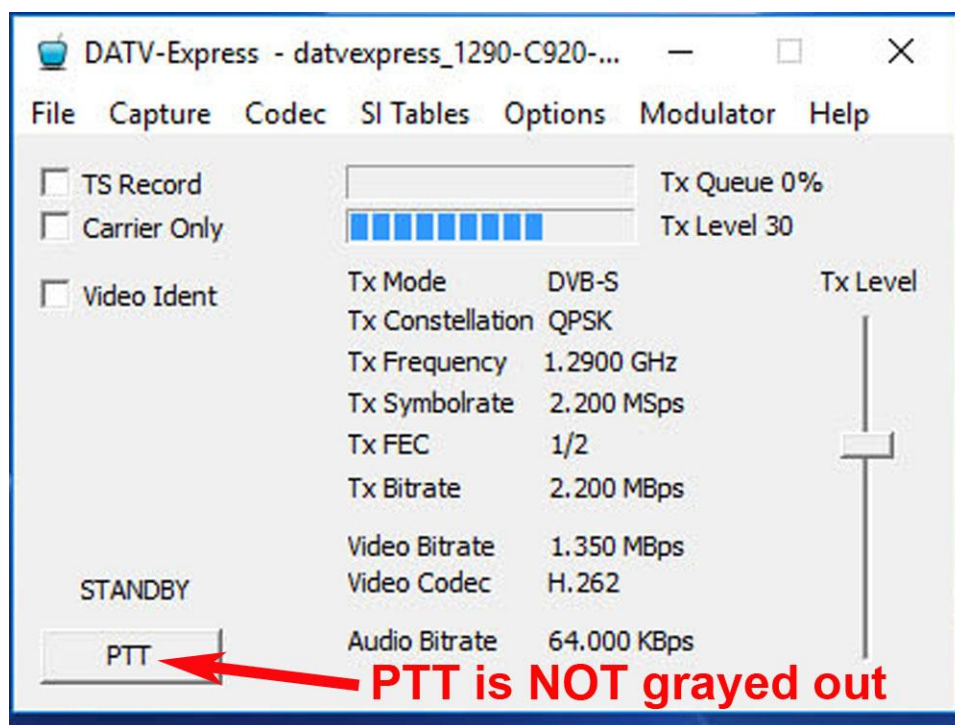

Figure 23 – The "NORMAL" MAIN screen confirms that Software is no longer running in DEMO Mode
- Select the CAPTURE Tab on the Main screen that is shown in Figure 23
- Select the CAPTURE Tab on the Main screen that is shown back in **Figure 23**